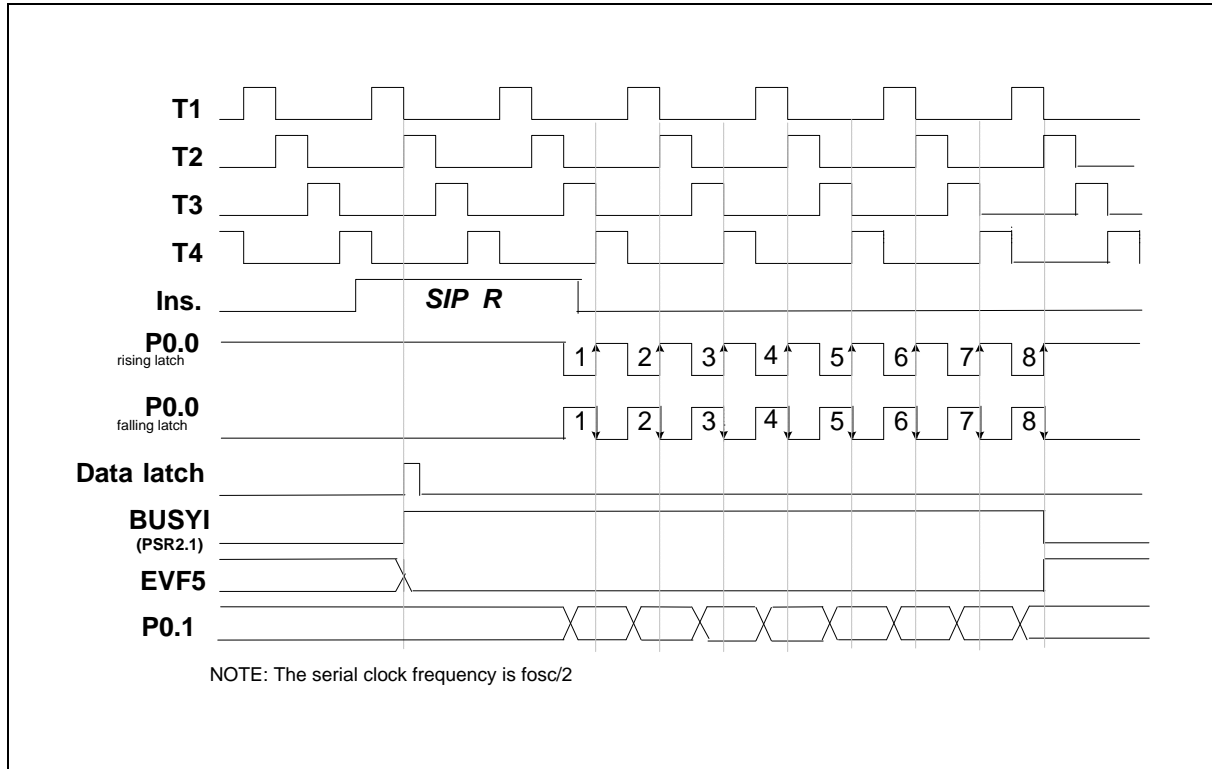

Figure 5-12 Timing of the Serial Input Function (SIP R)
- (1) When in the first time the SIP R instruction is executed, the data will be loaded to the ACC and RAM from the serial input buffer. But this data is not meaningful, it is used to enable serial port. There are two methods to get the serial data, one is interrupt and the other is polling. When enable the serial input, the bit 1 of port status register 2 (PRS2) will automatically be set to "1" ($BUSY_I = 1$). Then the P0.0 pin will send out 8 clocks or accept 8 clocks from external device and the data from the P0.1 pin will be loaded to SIB buffer at the rising or falling edge of the P0.0 pin. After the 8 clocks have been sent, $BUSY_I$ will be reset to "0" and EVF.5 will be set to "1." At this time, if IEF.5 has been set ($IEF.5 = 1$), an interrupt is executed then the SIP R instruction can get the correct data from the serial input buffer (SIB), low nibble of SIB moves to ACC register and the high nibble moves to RAM; if HEF.5 has been set ($HEF.5 = 1$), the hold state is terminated. The polling method is to check the status of PSR2.1 ($BUSY_I$) to know whether the serial input process is completed or not. If a serial input process is not completed, but the SIP R instruction is executed again, the data will be lost. The timing is shown in Figure 5-12.